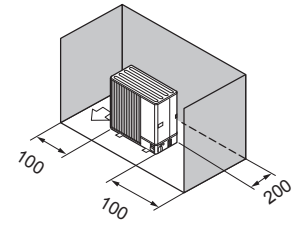

Fig. 1-9
- ③ Obstacles at rear and sides only (Fig. 1-9)